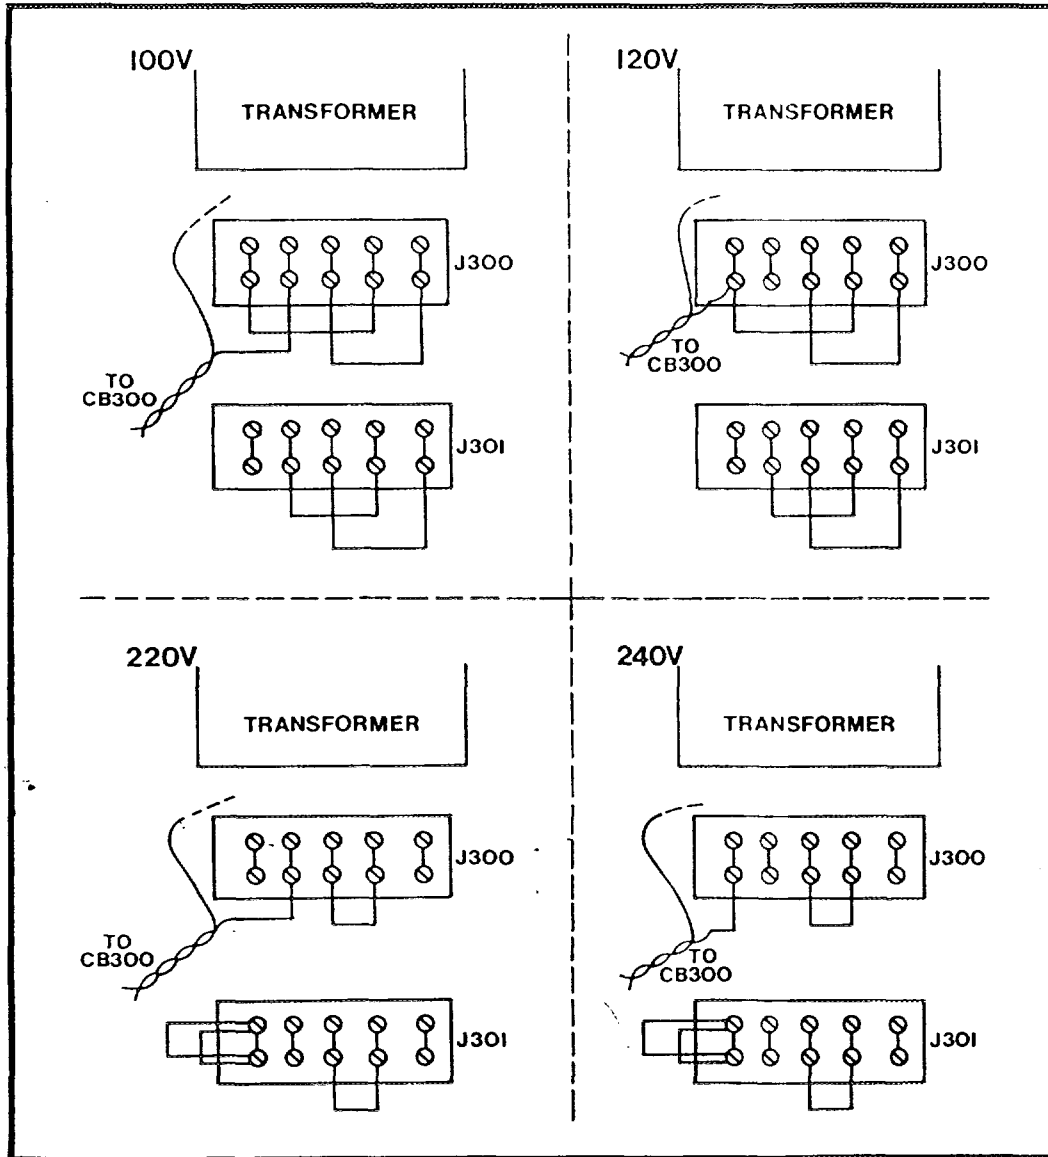

Figure 3-3. AC Mains Wiring
a. AC LINE VOLTAGE POWER. Be sure that the mains voltage used is within the limits defined in figure 3-3 (ac mains wiring). Other mains voltages may be used after rewiring the instrument internally.